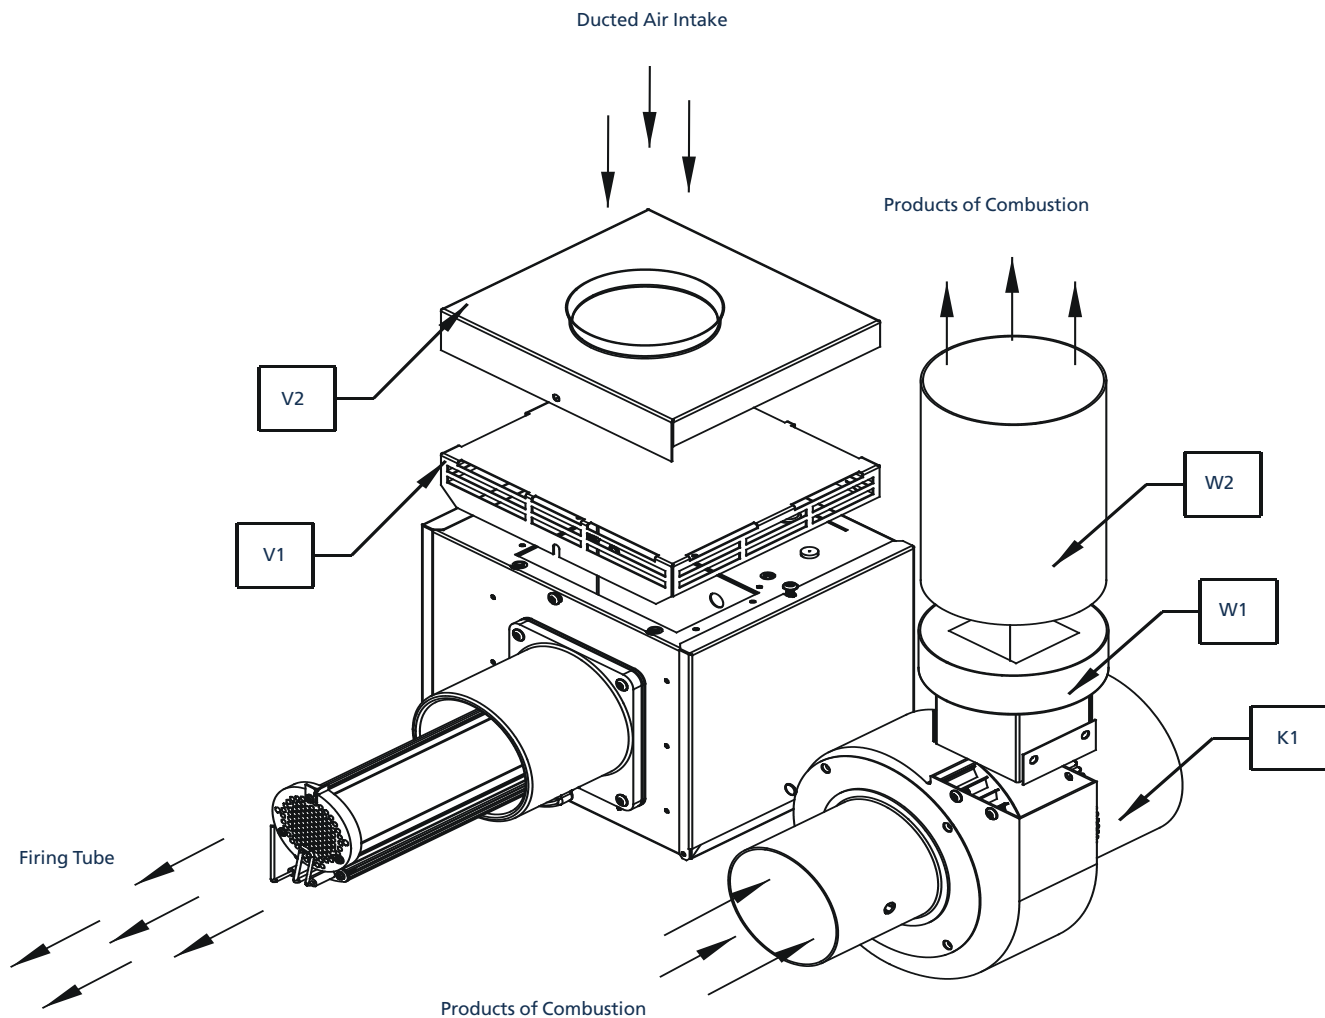
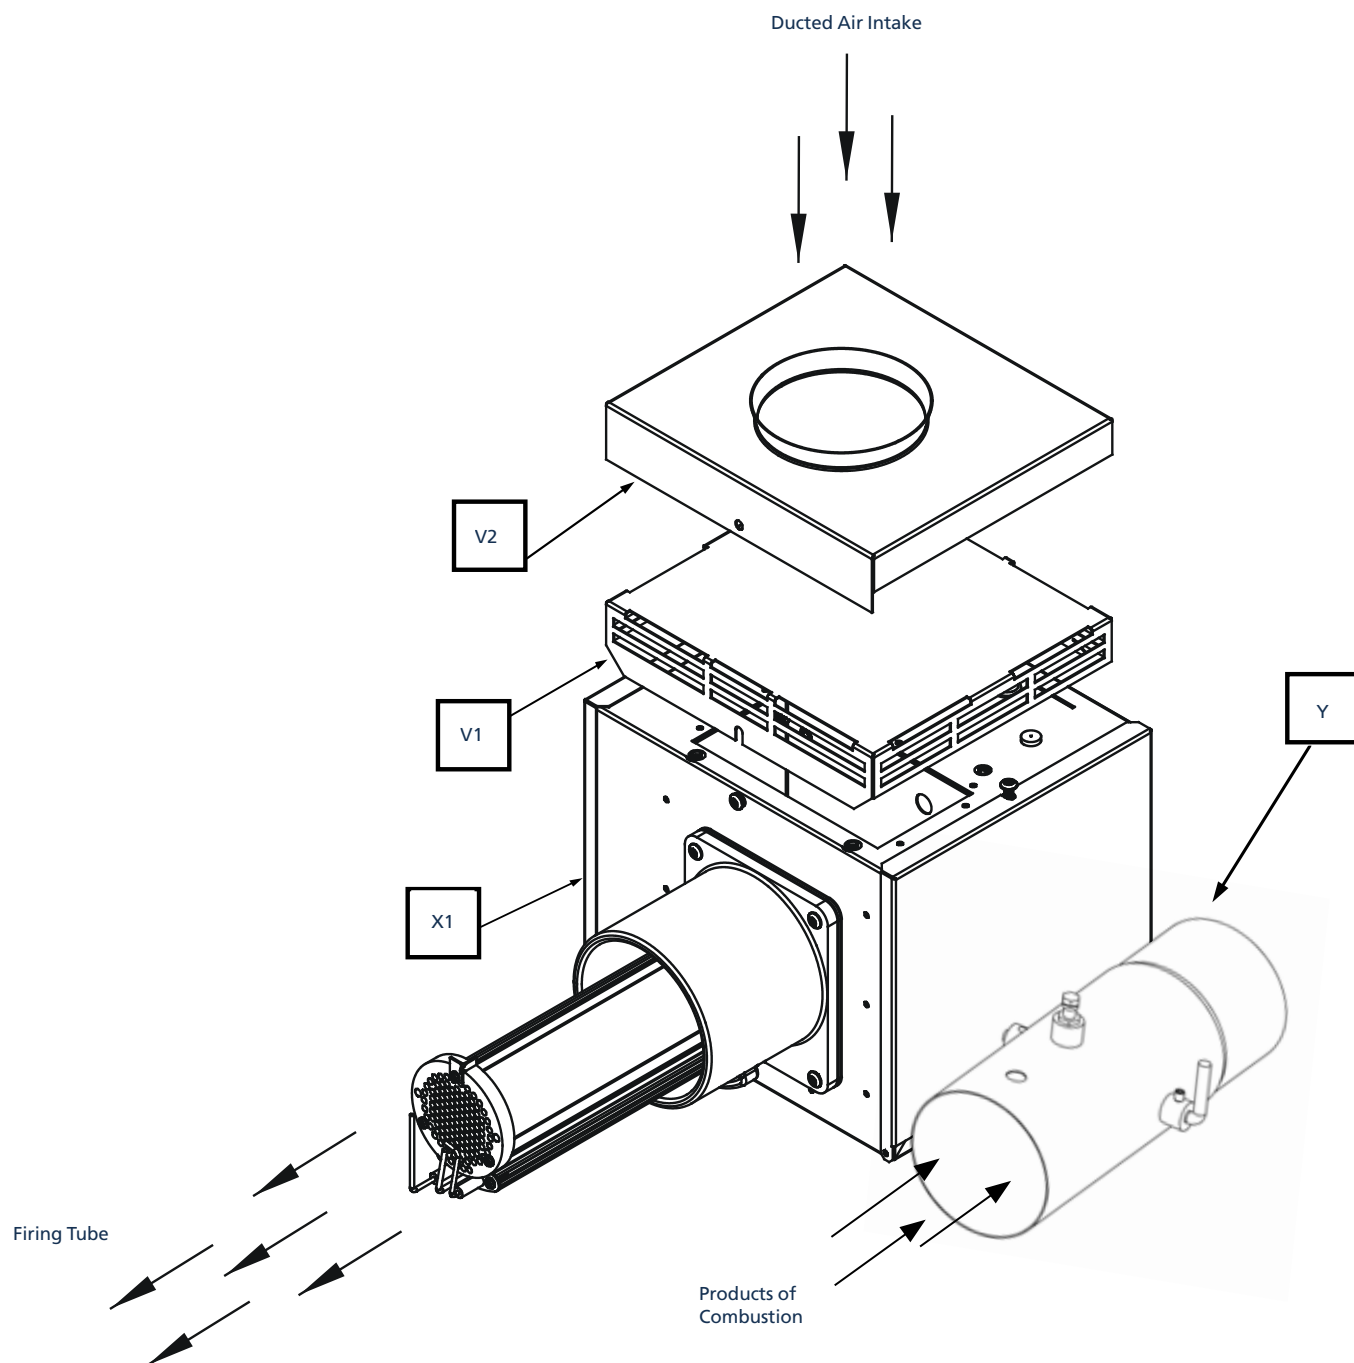

Figure 18. Option 1. Flue Attachment Induced Burners (VSUTE)
Figure 20. Option 3. Flue Attachment Induced Burners (VSLHE)
Dependent on the type of burner fitted to your heater it is possible to have configurations of flue and combustion air inlet options in Figure 18 to Figure 20:
- Option 1 - For induced burner with / without flue and / or optional ducted air inlet refer to Figure 18.
- Option 3 - For herringbone heaters refer to Figure 20 on page 20 & section 1.7 on page 9 Herringbone Systems (UHE/LHE).